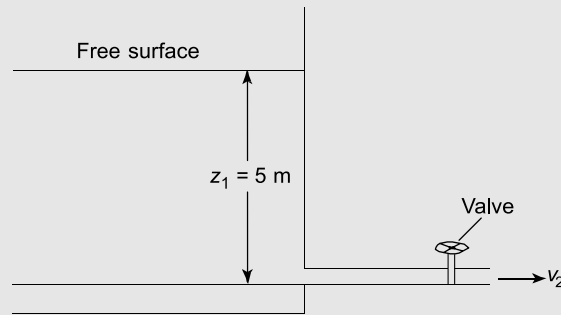

Figure 24.12
Problem 2. A storage tank contains oil whose free surface is 5 m above an outlet pipe, as shown in Figure 24.12. Determine the mass rate of flow at the exit of the outlet pipe, assuming that (a) losses at the pipe entry = $0.4 v^2$, and (b) losses at the valve = $0.25 v^2$.
1. If in the storage tank of worked Problem 2 on page 297, Figure 24.12, $z_1 = 8 \text{ m}$, determine the mass rate of flow from the outlet pipe. [7.995 kg/s]
2. If in the storage tank of worked Problem 2, page 297, Figure 24.12, $z_1 = 10 \text{ m}$, determine the mass rate of flow from the outlet pipe. [8.939 kg/s]